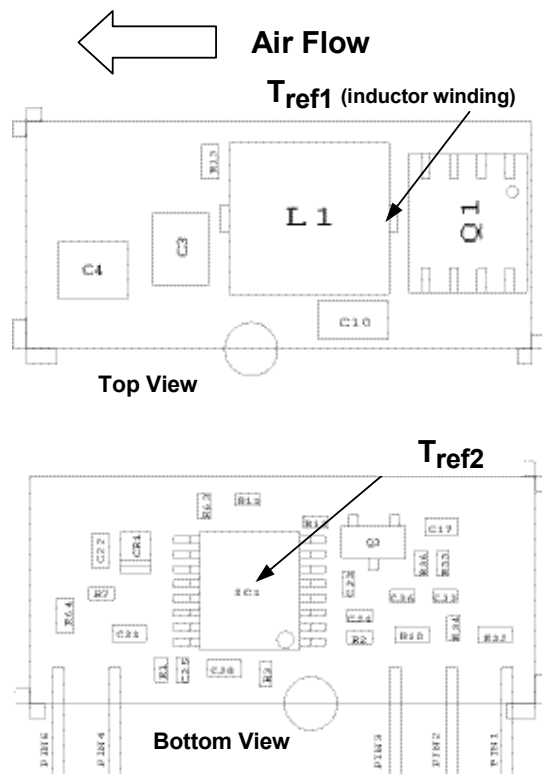
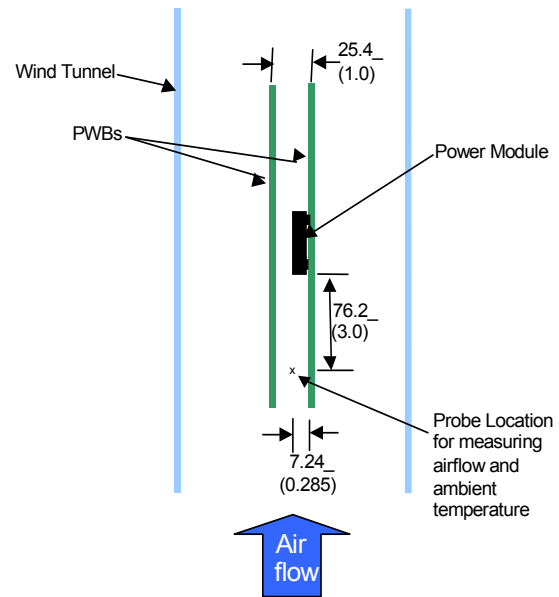

Figure 31. T_{ref} Temperature measurement location.
Figure 32. Thermal Test Set-up.
To provide over temperature protection in a fault condition, the unit relies upon the thermal protection feature of the controller IC. The unit will shutdown if the thermal reference point T_{ref2} , (see Figure 31) exceeds $140^{\circ}C$ (typical), but the thermal shutdown is not intended as a guarantee that the unit will survive temperatures beyond its rating. The module will automatically restarts after it cools down.
Considerations include ambient temperature, airflow, module power dissipation, and the need for increased reliability. A reduction in the operating temperature of the module will result in an increase in reliability. The thermal data presented here is based on physical measurements taken in a wind tunnel. The test set-up is shown in Figure 32. Note that the airflow is parallel to the long axis of the module as shown in figure 31. The derating data applies to airflow in either direction of the module's long axis.
The thermal reference point, $T_{ref,1}$ used in the specifications of thermal derating curves is shown in Figure 31. For reliable operation this temperature should not exceed 125°C.